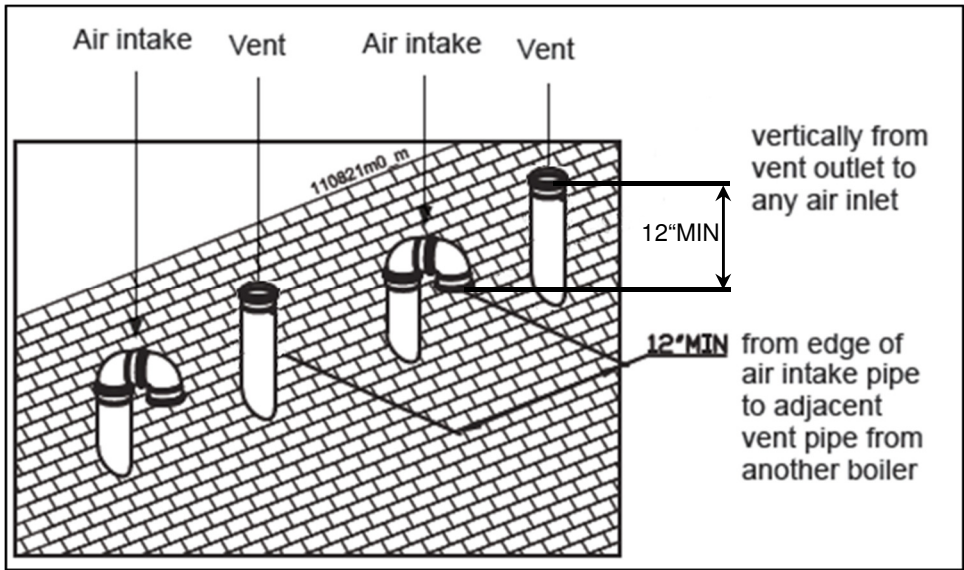

Figure 9.22
1. When terminating multiple boilers, terminate each vent/air connection as described in this manual (Figure 9.22).
2. Place roof penetrations to obtain minimum clearance of 12 inches (305 mm) between outside edge of air intake and exhaust vent of another boiler for U.S. installations (see Figure 9.22). For Canadian installations, provide clearances required by CSA B149.1 Installation Code.